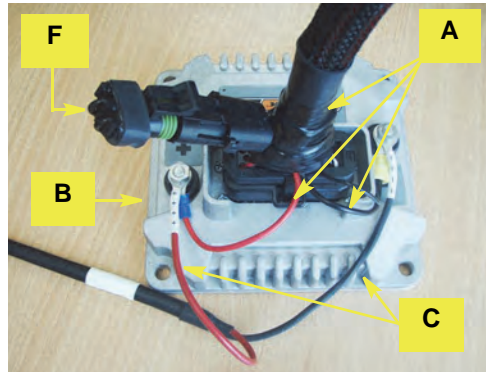

Figure 1b: Connections at AC110
- b. Install the loop back connector (terminator) **F** in the appropriate connector on interface cable **A** then connect **A** (main plug and power connectors) to AC110 **B**, red to + positive, black to - negative (Figure 1b). Do not refit terminal nuts yet.
Connect the non-fused end of power cable **C** to AC110 **B**. Refit the terminal nuts and tighten the power connections (Figure 1b).